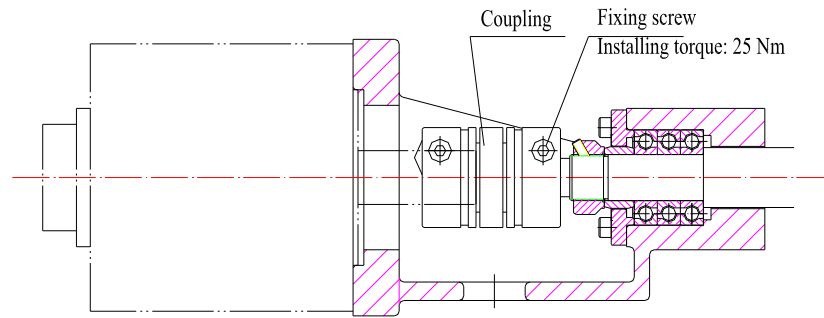

Fig. 3.8 (a) installation of Y axis motor
- (2) Wipe away the anticorrosive lubricating grease covered on coupling.
- (3) Position the servo motor above the motor cabinet as Fig. 3.8 (a) ; get the motor shaft into the bore of coupling; tighten the fixing screw.
- (4) Make sure the connector of the motor is downward from the side of machine as Fig.3.8 (a) and tighten the screws for motor mounting. When the motor is not aligned with the installing hole of motor cabinet, manually rotate the motor proper force to get it aligned with the hole.
- (5) Tighten the fixing screws at the side of the motor shaft of coupling with the specified torque (25Nm). When the bolt is in the phase impossible of tightening, rotate Y axis manually after (6) is connected with cable and power supply is connected, align them and tighten the screws (automatic running without tightening the screws of coupling is forbidden.).
- (6) Connect the two cables of Y axis motor.
- (7) Return to the referring position after power supply is switched on.